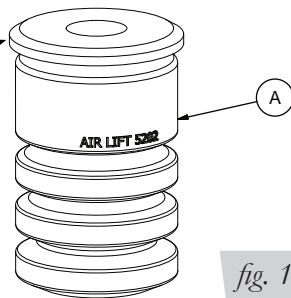
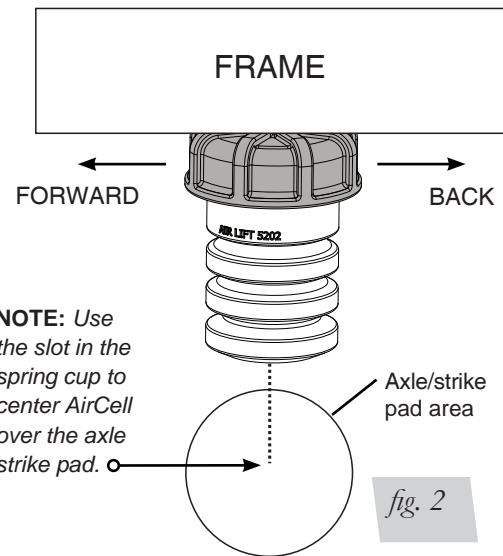

fig. 1
fig. 2
3. Assemble the spring cup (E) to the bracket (G) using the supplied 3/8" bolts (B), flat washers (D) and nyloc nuts (H) (fig. 1).
4. Attach the bracket/cup assembly to the vehicle using the supplied 3/8" bolt (B), flat washer (D), and nyloc nut (H). Do not tighten the hardware completely at this time.
5. Insert the spring (A) into the spring cup (E) using a twisting motion while pushing with force. Make sure the spring snaps into position inside the cup.
6. Check the alignment of the spring over the axle strike pad (fig. 2). If needed, remove the spring and re-position the cup by using the slot for adjustment (fig 1, 2). Once positioned correctly, torque the hardware to 31 ft/lbs and follow steps 3 - 6 for the other side of the vehicle.